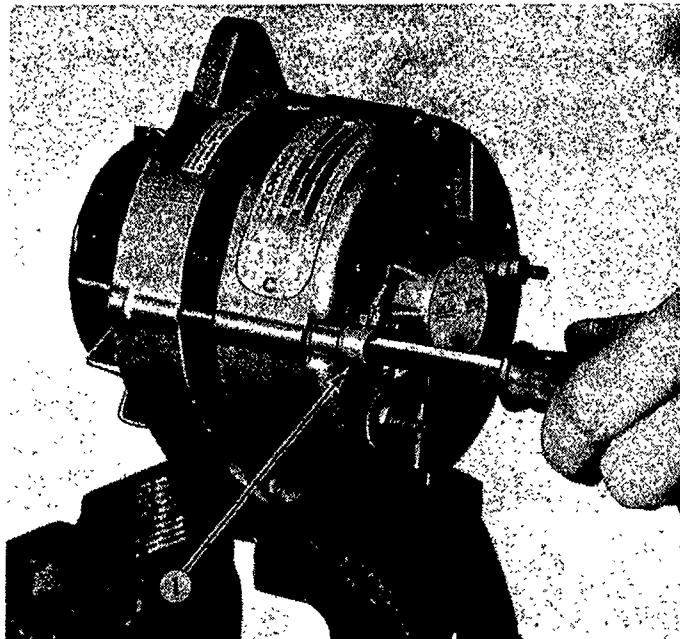

Figure 31
- Remove the four through bolts and square nuts holding the housings together. See Figure 31.